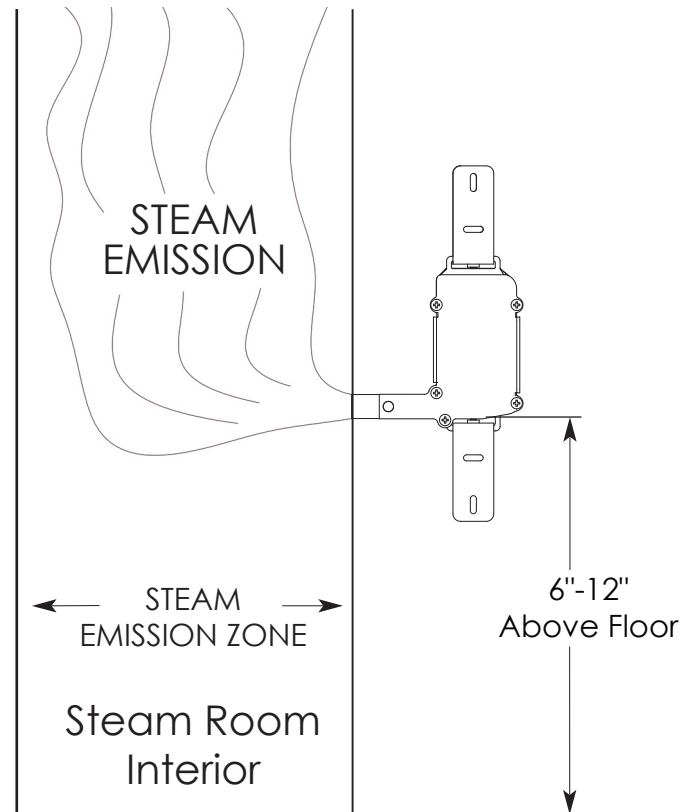

Figure 2
- Install in orientation shown in fig 2 only. Installation in any other orientation may concentrate the steam and result in excessive temperature. Failure to install in correct orientation may result in steam head operation where incidental contact by the bather with direction steam emission may occur. Failure to follow these instructions may result in a hazardous condition, scaling or personal injury.
! CAUTION Because steam emissions are very hot, locate the steam head where incidental contact by the bather with direct steam emission cannot occur. Do not locate the steam head in any location where the steam emission zone is near a seat, bench or any space occupied by any persons. See Fig. 2 for a diagram of the steam emission zone. Failure to follow these instructions may result in a hazardous condition, scalding or personal injury.
STEP 1. Locate the steam head 6-12" above the finished floor. Do not locate the steam head in any location where the steam emission zone is near a seat, bench, or any space occupied by any persons. See Fig. 2 for a diagram of the steam emission zone.